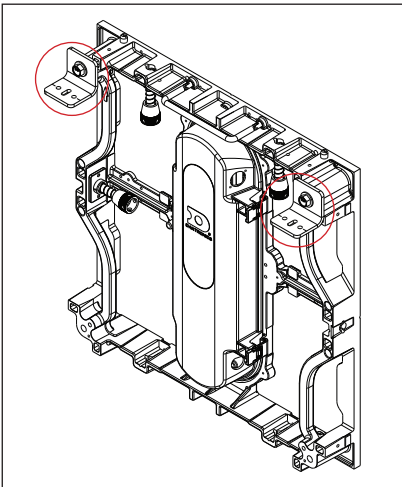

Figure 5: Second Row & Higher Panel Angles
- a. Attach a panel angle in the top corners of the display panels for the row. Refer to **Figure 5**. Use short (HS-4196773) or tall (HS-4198232) panel angles to match up with the horizontal wall angles. Center each panel in its slotted hole and use a bolt (HC-4207944) to secure the panel angle. Tighten the bolt with a 15 mm socket.